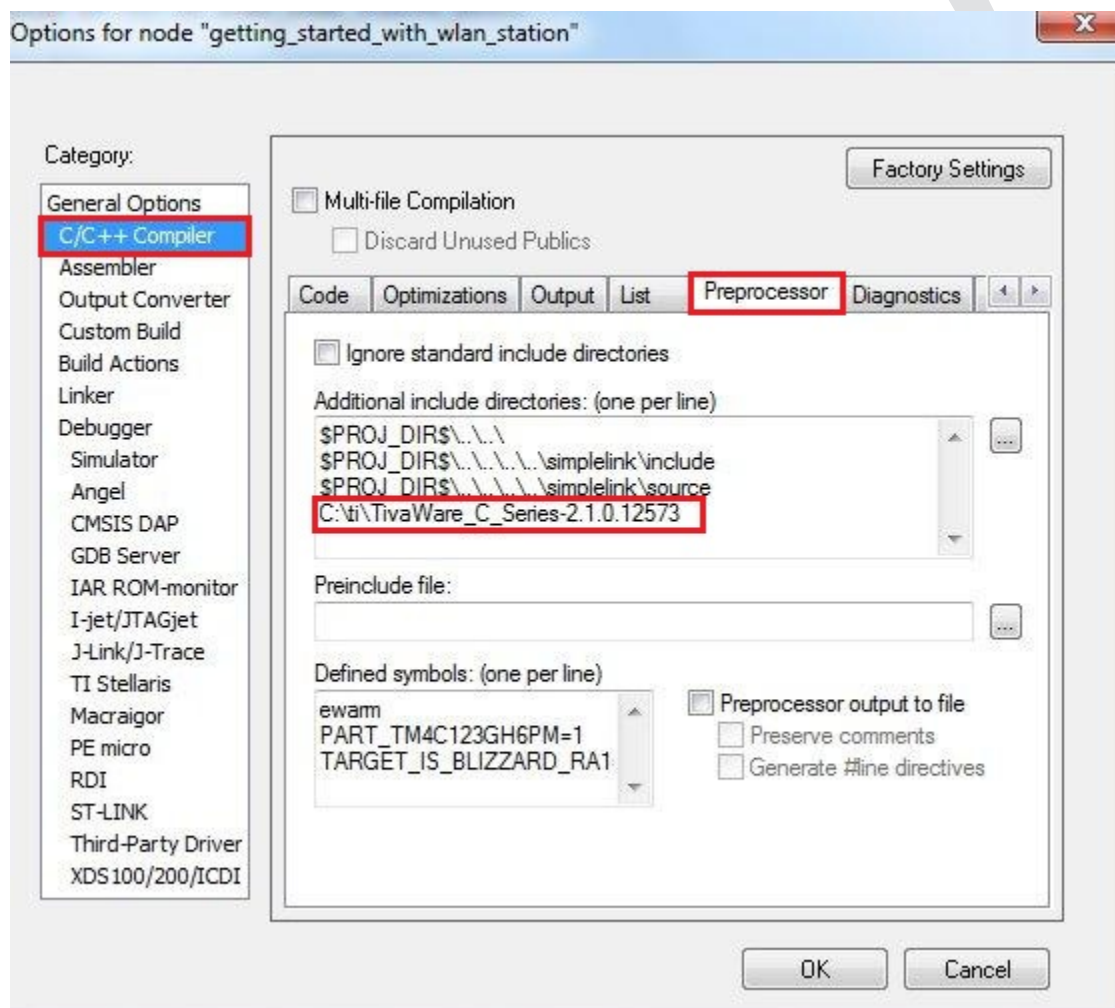

Figure 8. Preprocessor Tab
3. Open *C/C++ Compiler* → *Preprocessor* tab (see Figure 8).